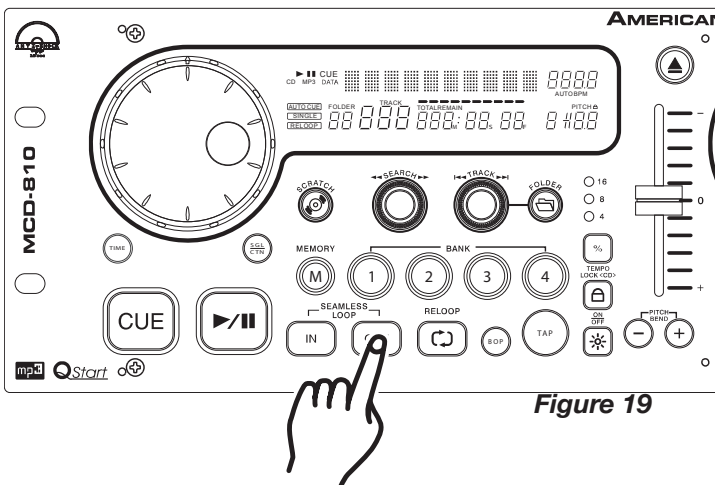

Figure 19
- 3) Press the *OUT BUTTON (20)* to set the ending point for your SEAMLESS LOOP (Figure 19). The *IN BUTTON (21)* and *OUT BUTTON (20)* L.E.D.s will immediately begin to flash rapidly, indicating the SEAMLESS LOOP mode has been activated.